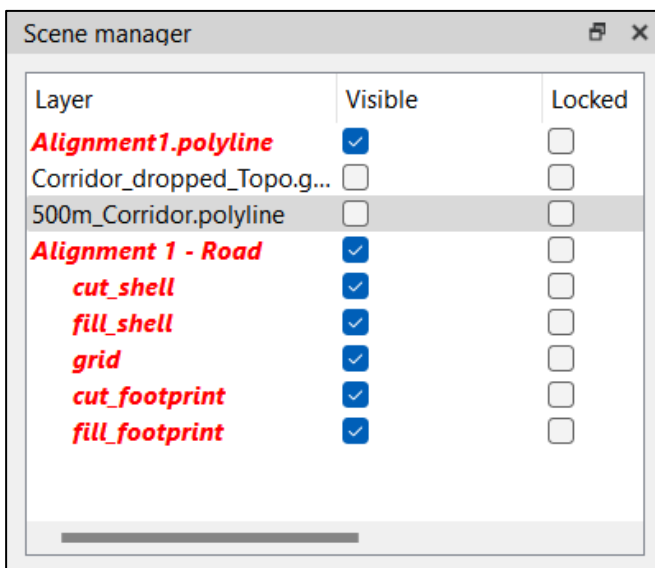
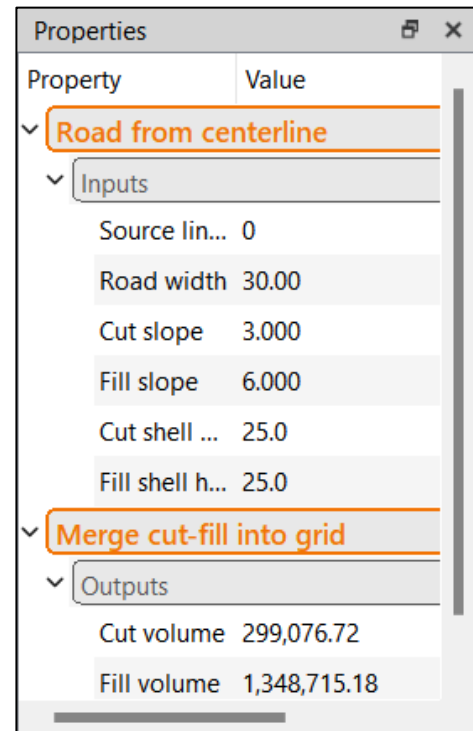

Figure 18: Objects created from creating road
Figure 19: Create road from centerline dynamic design values
Formation will then create several new objects (Figure 18) under your chosen road name label.
When you select, in this case, 'Alignment 1 – Road' in the *Scene Manager*, the *Properties* window will list the inputs entered into the 'Create road from centerline' function and the output cut/fill volumes (Figure 19). The output objects created in Figure 18 and the resultant cut/fill volumes are all dynamic. In other words, they will update automatically as the input centerline or design inputs are modified.
- Save and update the grid surface and road design after adjustments press the  button. Based on your new design, it will update the output volumes in Figure 19.
Initially, the volumetrics were (figure 19):